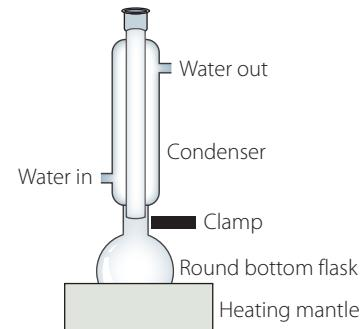

FIGURE 12.7 Apparatus used for refluxing an ester mixture
In ester formation, a process called **reflux** is used. The apparatus for refluxing is shown in Figure 12.7.
- 2 Assemble the reflux apparatus as seen in Figure 12.7 (page 345) ensuring both the flask and condenser are securely clamped and tightly fitted together.